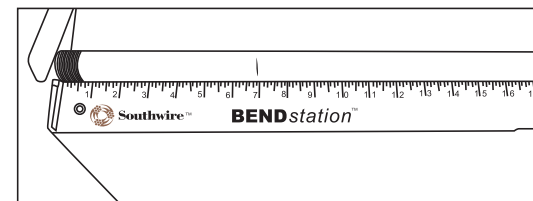
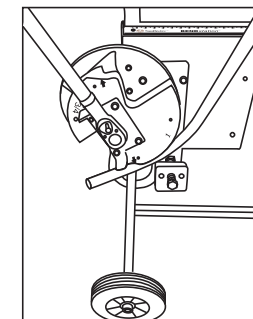

Fig 1
Fig 2
- a. Use attached 60" ruler by laying conduit above ruler and slide conduit to the far-left side and butt up against conduit stop to make marks at desired lengths (Fig. 1).
6. If bending 1" or larger conduit, utilizing the ratcheting system will allow the operator to use body weight to increase bending force with minimal effort. To utilize this system switch ratchet to enable the bending handle to sit at a 30-degree angle from the ground prior to bending. Switch ratchet (4) again so that pressure can be applied to the bending head in a downward motion.
8. When bend is finished, lift handle to a vertical position and twist conduit outward to release from shoe (Fig. 2).